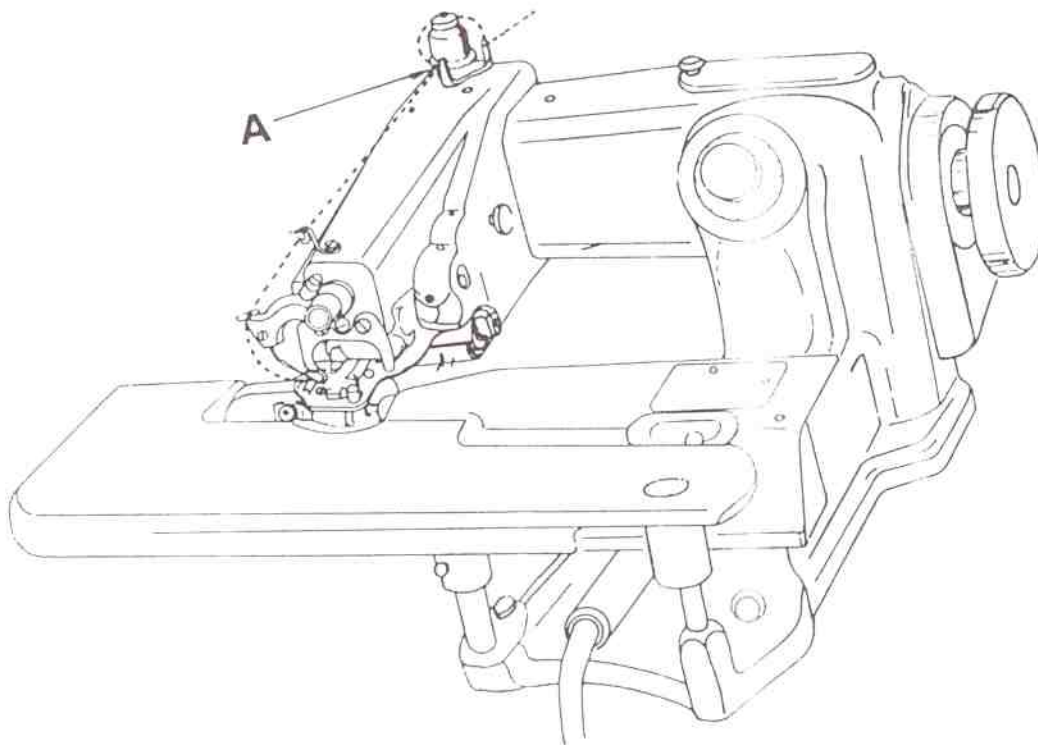

Fig. 3
Thread the machine as shown (Fig. 3). Make sure that the thread passes between the two tension discs at point (A). The thread should be passed through the needle eye from the underside of the needle. Cut the excess thread after threading the needle so that approximately 100mm (4") of thread end is left. Adjust tensions to suit the thread and material being used.